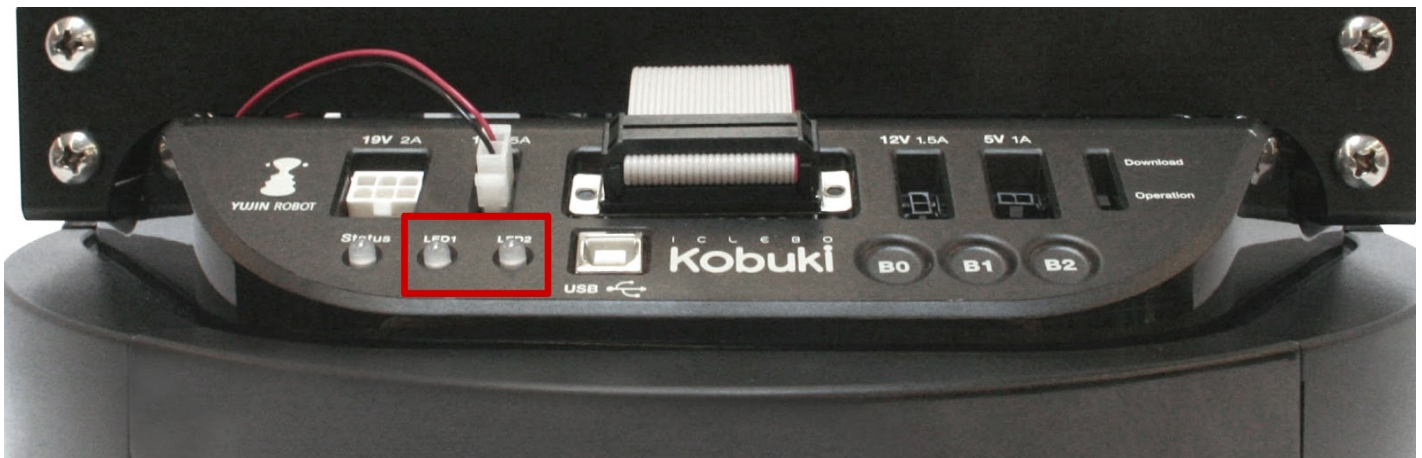

Figure 2: User programmable LEDs on the QBot 2
6. Change the 4 manual switches between 0 and 1 to change the 2 user-programmable LEDs on the QBot 2 between the 4 states - OFF, Red, Green and Yellow. The corresponding LED on the QBot 2 should change its color accordingly (Figure 2).